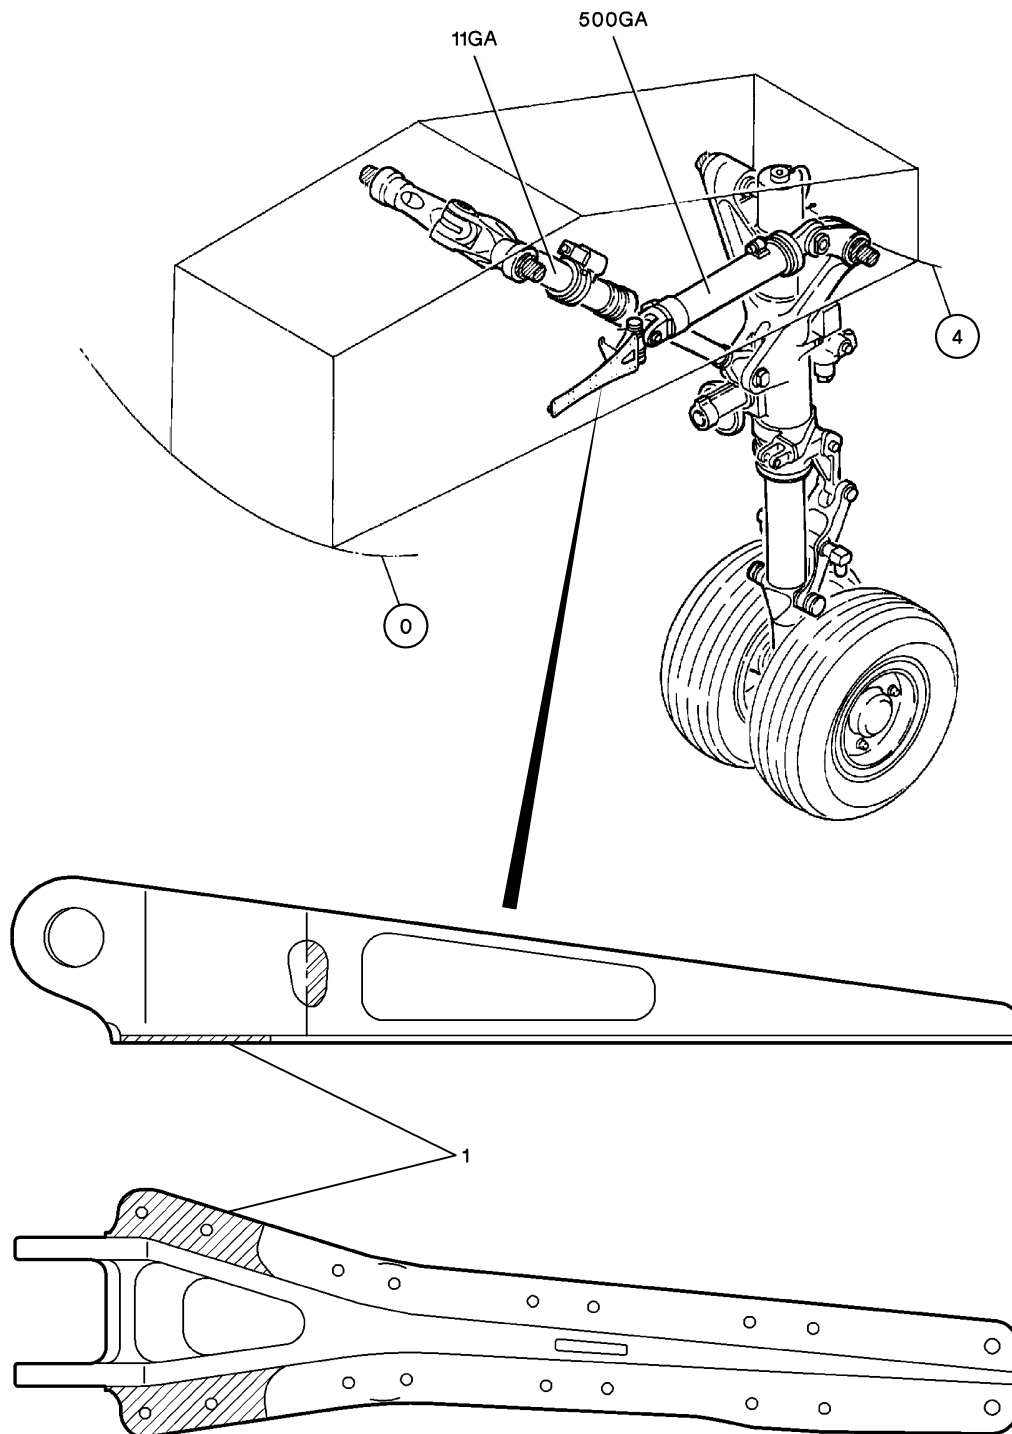

Figure 3: Visual Inspection of Attachment Fitting
Refer to **fig. 3**
- (2) Check the condition of the seals on landing gear doors (**711AB**) and (**712AB**).
- F. Check all the attaching screws of the attachment fitting of nose landing gear actuating cylinder (**500GA**). Particularly check the screws located at the rear of attachment fitting (1): there should be no cracks under their heads (**fig. 3**).